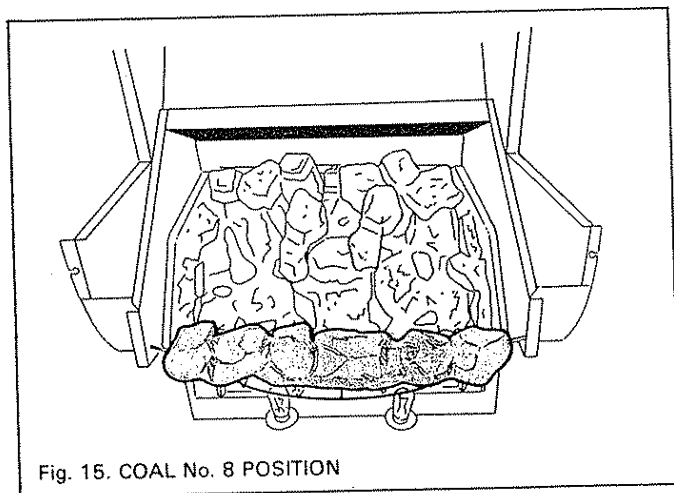

Fig. 15. COAL No. 8 POSITION
2. Position coal No. 8 centrally on the wire grid located above the bulbs (Fig. 15).